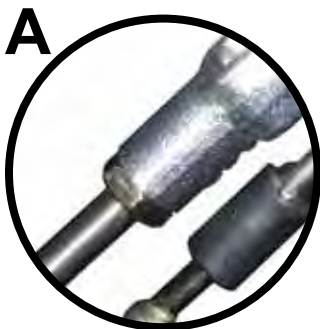

Fig. 009
1. Adjust jam nut all the way to the end so no threads are showing. Adjust the yoke as far onto the rod as possible and re-tighten the jam against the yoke (A - Fig. 009).